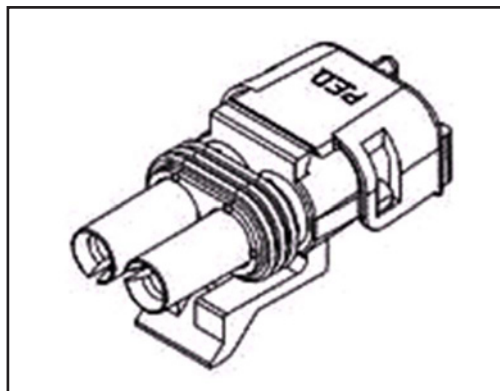

Figure 6 - Wire installation into the 12015792 Connector
- 1.10. Install the white wire into the 12015792 connector, at location B. See Figure 6.
- 1.11. Install the red wire into the 12015792 connector, at location A. See Figure 6.
- 1.12. Install the red wire to the alternator field terminal. See Figure 6.